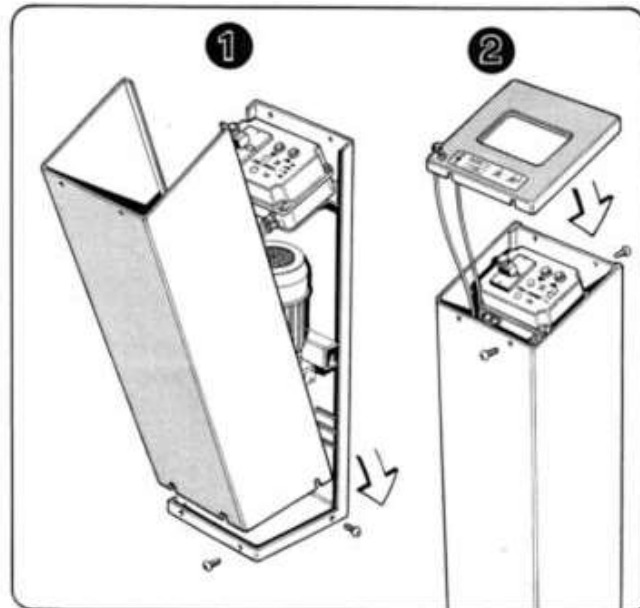

Figure 3b
- Rotate clockwise and pull the mushroom-shaped emergency button until it is released (1).
- Press the reset button on the right of the mushroom-shaped emergency button (2).
- Press the <ascent> button (5) for approx. 3 seconds: the lift should rise.
- Position the casing on the control console frame and lock it in place using the setscrews provided (Fig.3b). Position the pushbutton panel cover (2 - Fig.3b) above the control console and lock it in place using the setscrews